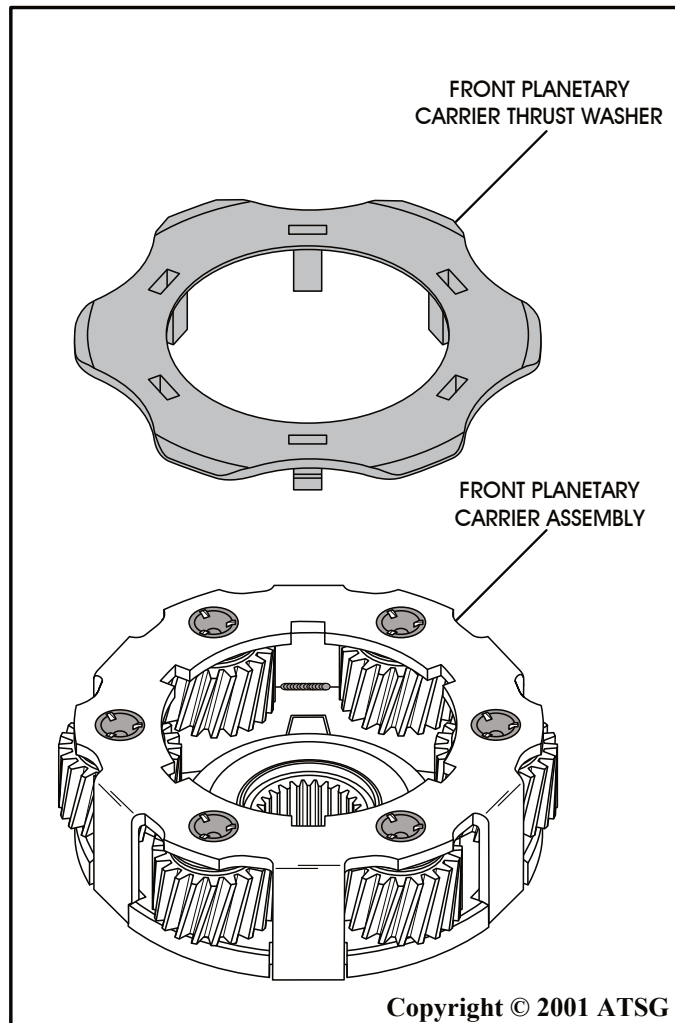

Figure 100
1. Inspect the front planetary carrier carefully for any wear and/or damage (See Figure 100).
3. Inspect the front planetary carrier thrust washer for any wear and/or damage (See Figure 100).
5. Install the front planetary carrier thrust washer by "Snapping" the tabs into place, as shown in Figure 100.